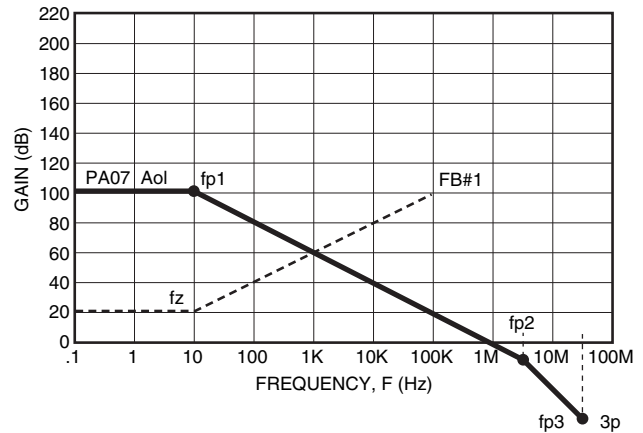
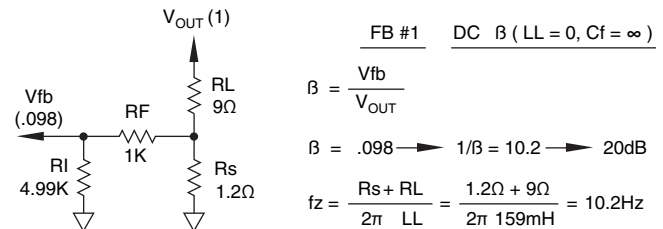

FIGURE 17. Aol AND FB # 1 – MAGNITUDE PLOT FOR STABILITY
FIGURE 18. FEEDBACK NO.1 (FB #1)
STEP 1: On Figure 17 plot the op amp's Aol curve as given by the manufacturer.
STEP 2: On Figure 17 plot FB#1. Refer to Figure 18 for calculation of FB#1. At DC, LL is a short and so β is a voltage divider through resistors as shown in Figure 18. As we go to higher frequencies, the reactance of LL will increase ($X_L = 2\pi f L$). This will increase the net load impedance which will cause β to decrease and 1/β to increase as frequency increases. Since we are working with a single reactive element the increase of that gain will be 20 dB per decade. Figure 18 details the breakpoint fz where this increase begins. We see that at the intersection of FB#1